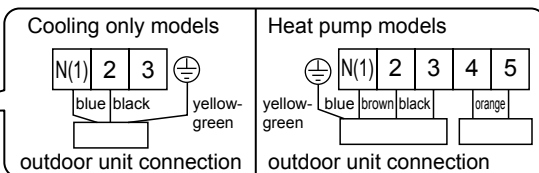

Fig.6
- Remove the wiring cover Fig.6.